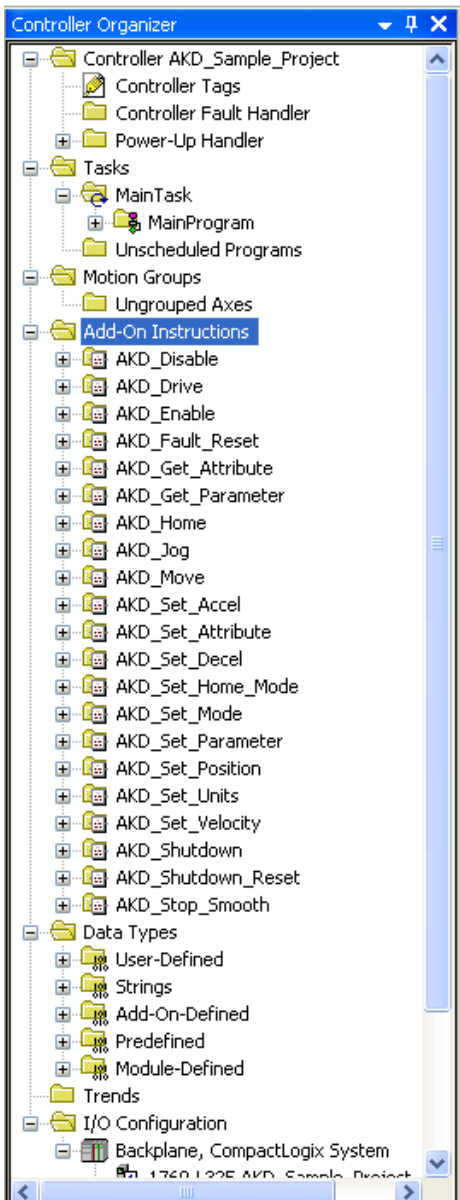

Figure 5-11: AOI's Successfully Imported
8. The instructions should now show up under the “Add-On Instructions” folder (Figure 5-11: AOI’s Successfully Imported)